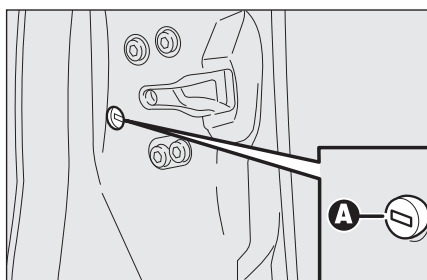

fig. 92
- ☐ fit the electronic key metal insert into **A-fig. 92**;
- ☐ remove the key from **A-fig. 92** and then efite the plug on the door.